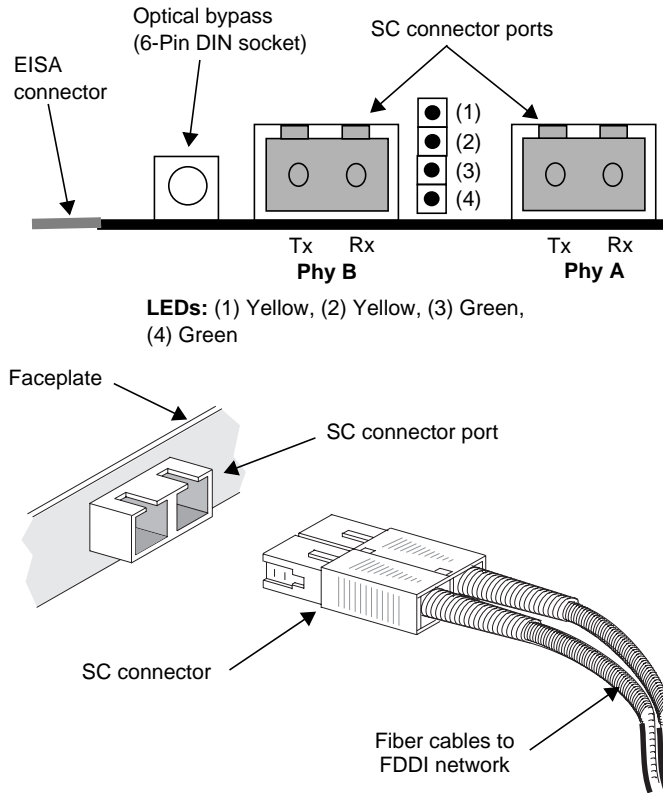

Figure 2-9. DAS SC Fiber Connections
- For SC connections, see Figure 2-9 on page 22.